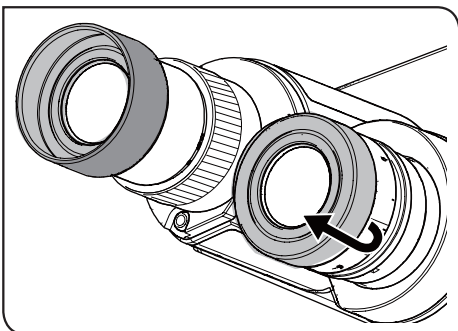

Fig.32
**2 Using the eye shades (Fig.32)**